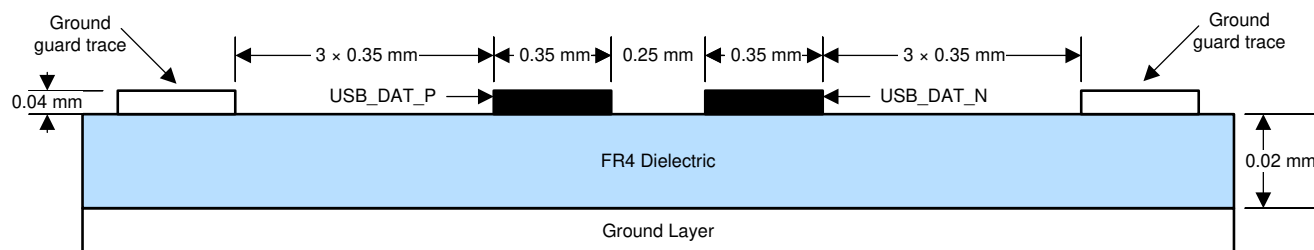

Figure 10-14. USB Layout Example
- (1) If using the minimum trace width and spacing to escape the Controller ball field, widening these out after escape is desirable if practical to achieve the target 100 Ω impedance (e.g. to reduce transmission line losses).
- (2) One pcb layout example for the differential pair is shown in Figure 10-14